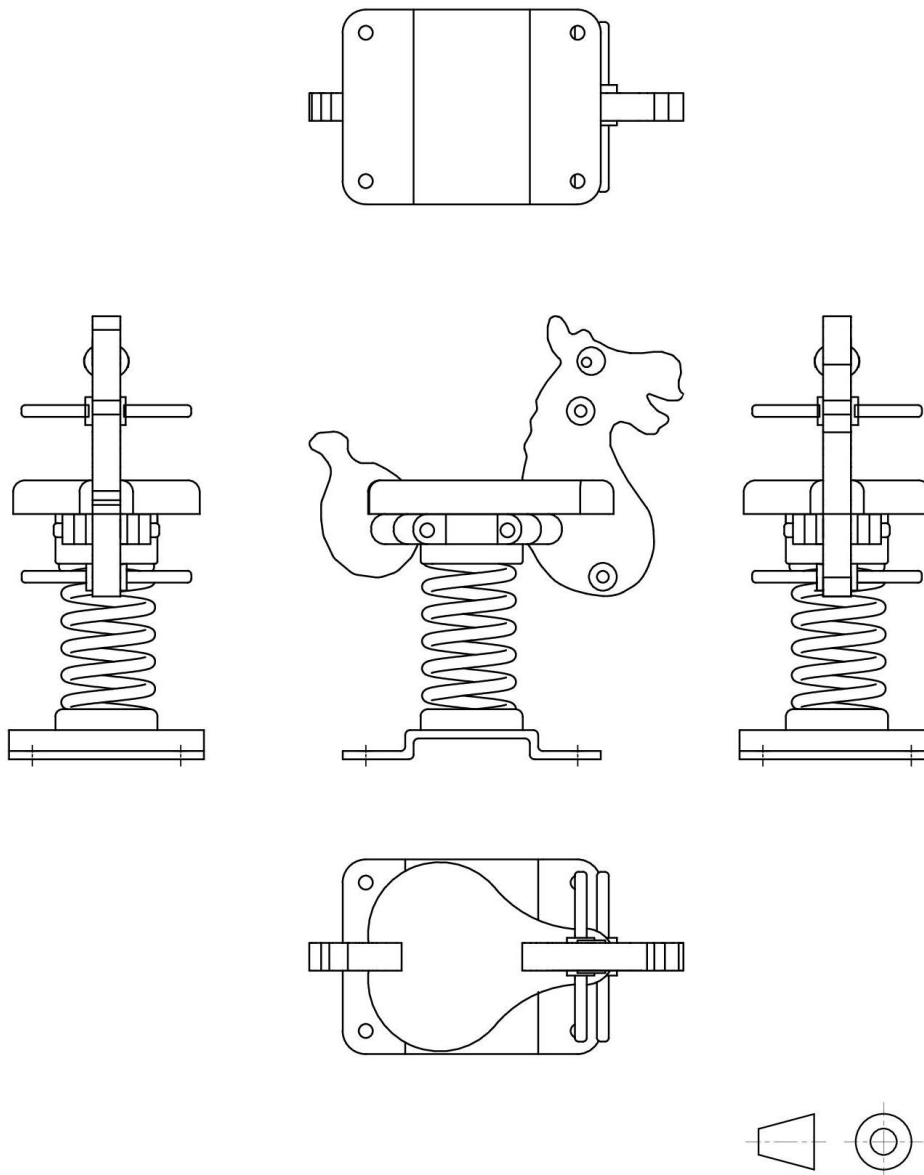

Figure 2
2. Five orthographic views of a spring horse rider are shown in Figure 2. The horse is made of polyethylene sheets and rods which are bolted together. The base plate and the spring are made of steel.